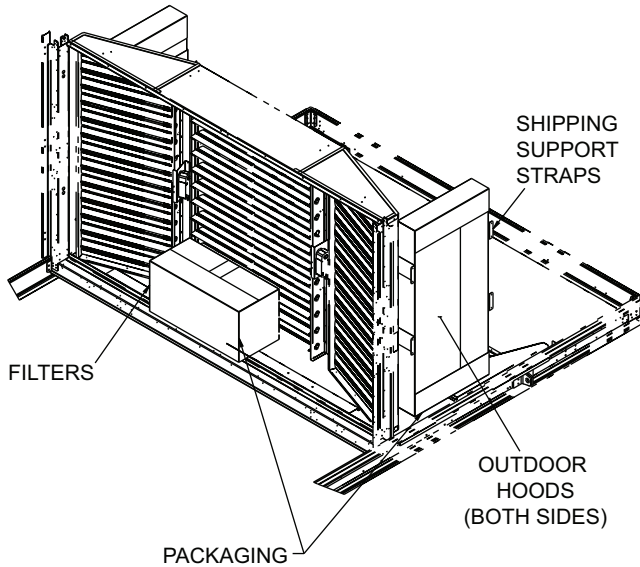

Fig. 34 — Packaging Locations
1. Remove the box from the unit (see Fig. 34).
2. Remove filters located between return/exhaust fan and economizer dampers, these are packaged separately from hoods for shipping (see Fig. 34). Screws, other hardware and seal strips are packaged with the outdoor hoods (Fig. 34).